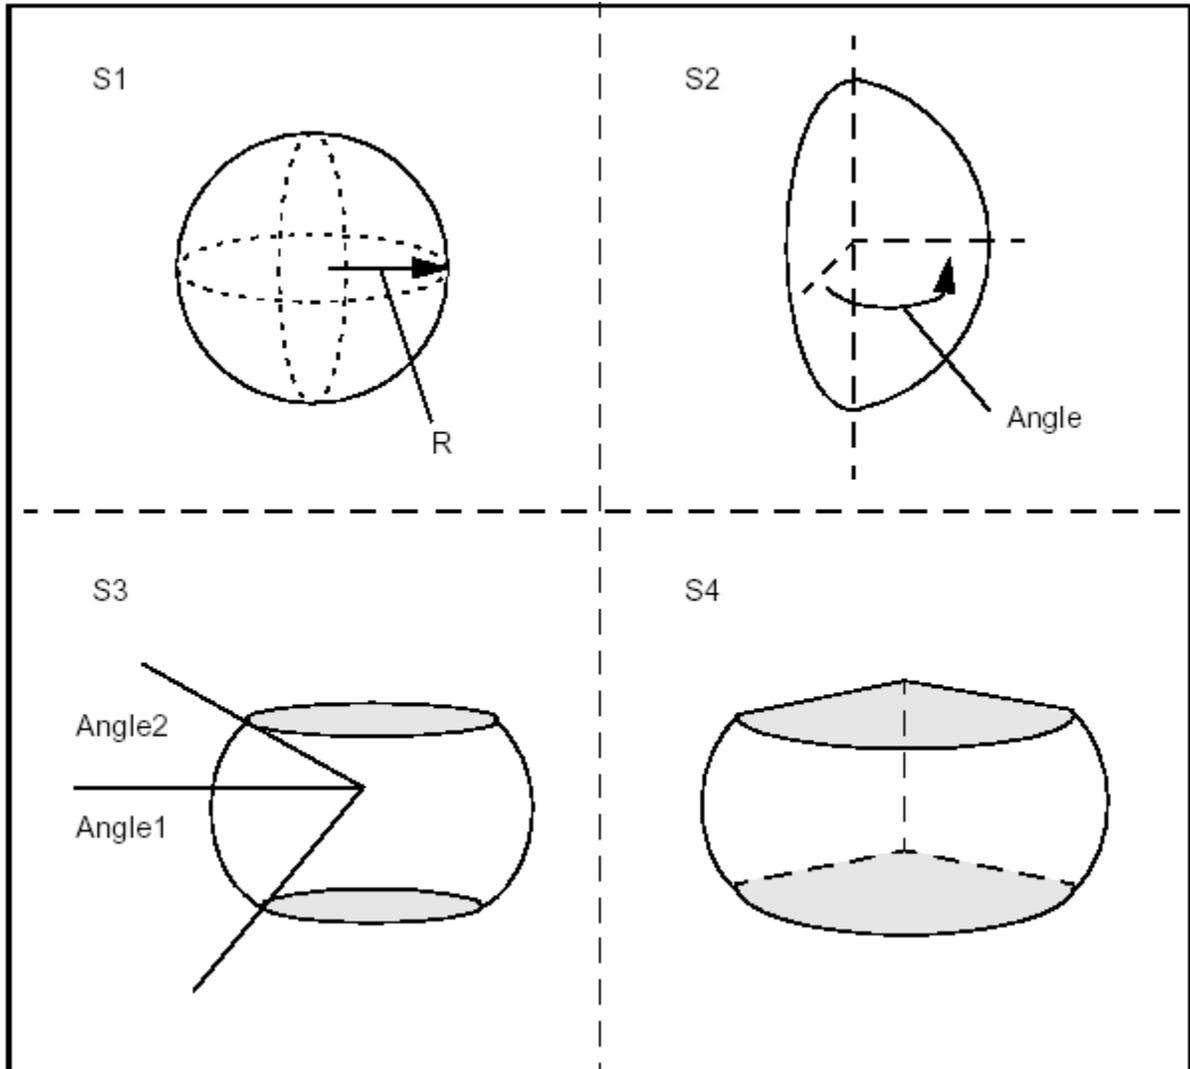

Figure 29. Examples of Spheres
- A radius; builds a full sphere. (see Figure 29.)
(see Figure 29.)
- A radius and three angles; build a portion of a strip of sphere. (see Figure 29.)